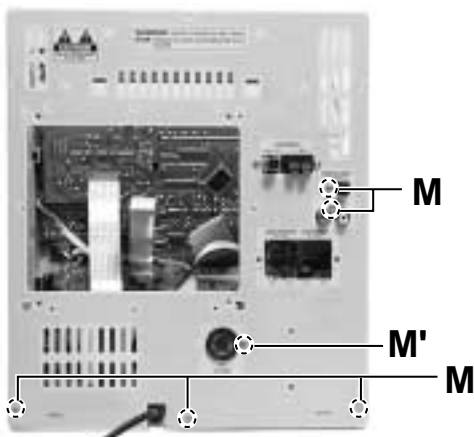

Fig.17
**■ Removing the rear cover** (See Fig.17)